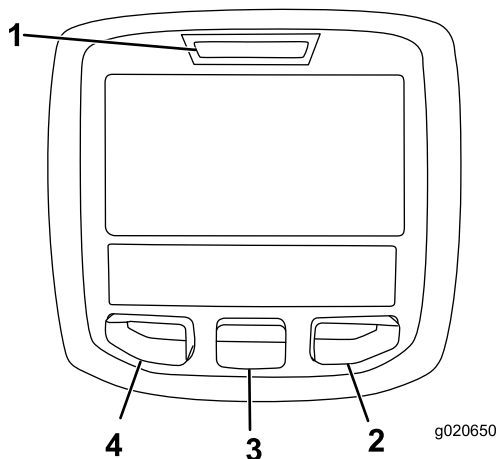

Figure 22
The InfoCenter LCD display shows information about your machine, such as the operating status, various diagnostics, and other information about the machine (Figure 22). There is a splash screen, main information screen, cutting unit (CU) motor information screen, and traction information screen.